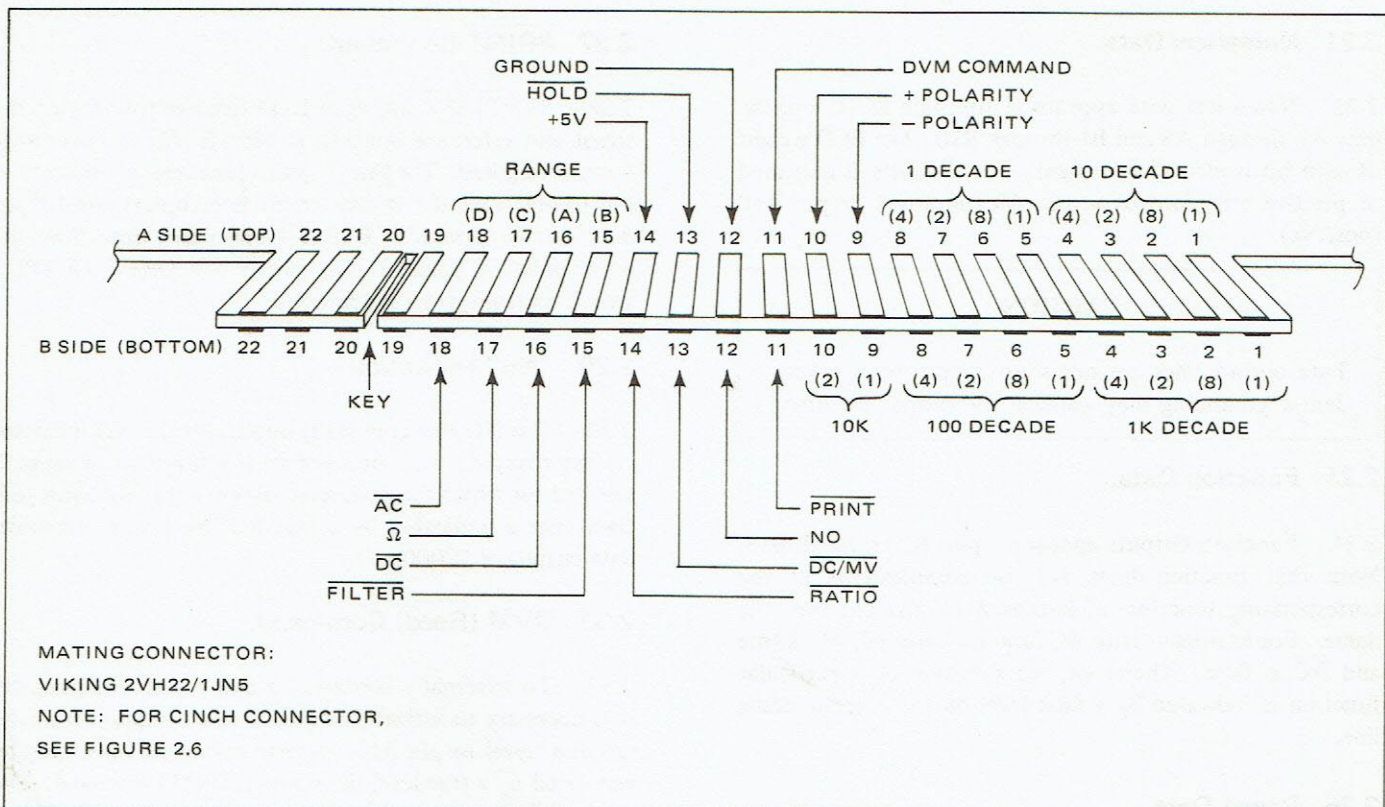
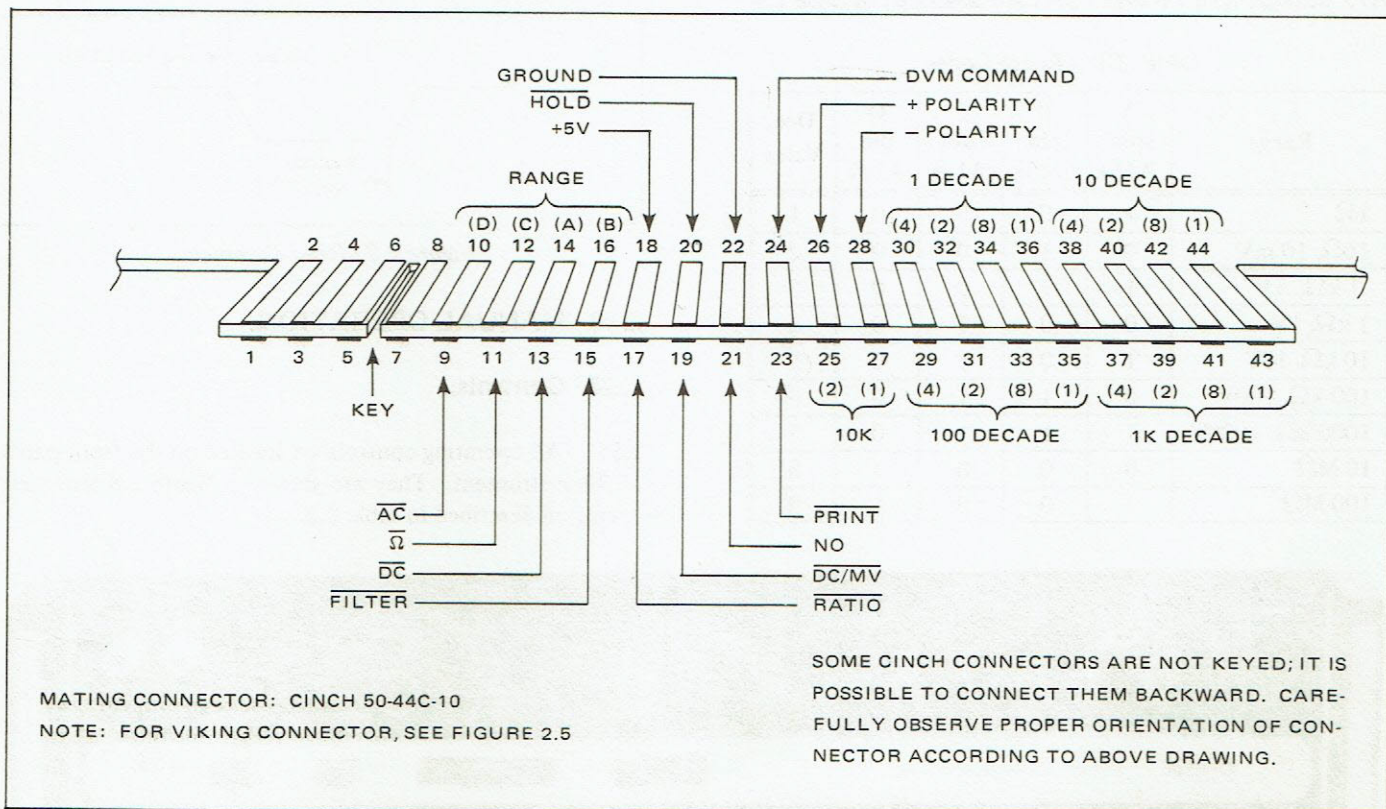

Figure 2.5 - PRINTER OUTPUT Connector J201 (Viking)
Figure 2.6 - PRINTER OUTPUT Connector J201 (Cinch)
2.20 J201 is a double-edged PCB connector (extension of Interconnection and Logic board) with pins A1 through A22 on the top edge and pins B1 through B22 on the bottom edge. Pin assignments of J201 are shown in figure 2.5. All outputs are referenced to data output ground, pin A12. This ground may be "floated" at up to 200V (peak) from power ground.
Figure 2.5 shows the pin numbering when a Viking mating connector is supplied. On certain instruments, a Cinch connector was supplied. Pin numbering for the Cinch connector is shown in figure 2.6. Signal descriptions and relative positions of the pins are identical, only pin numbers are different.
2.22 Numerical data appears in four-line BCD code on pins A1 through A8 and B1 through B10. The BCD weight of each bit is identified in figure 2.5. Polarity is indicated in positive true format on pin A9 (negative) or pin A10 (positive).